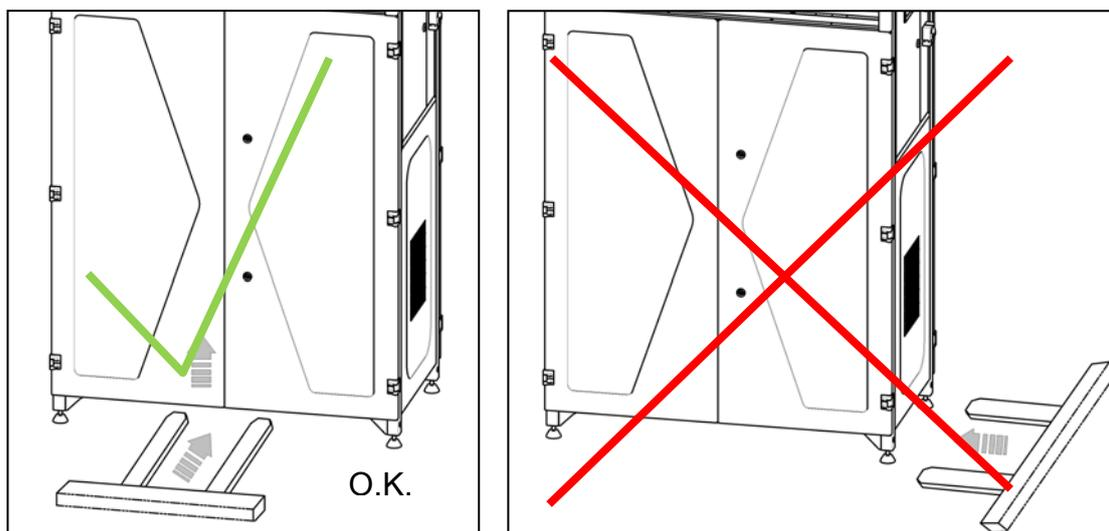

Fig.4
- Position the assembly at the site of installation. (Fig.4)